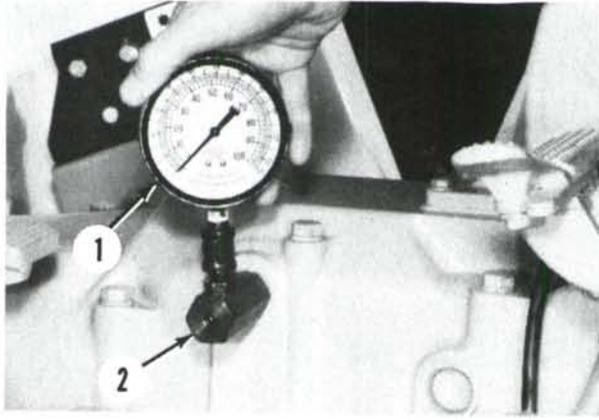

Fig. 189—Install pressure gage (1) using special adapter CAS-1242 (2) in control valve test port to check control valve relief pressure.
**255. SETTING CONTROL VALVE PRESSURE.** Reinstall control valve and tighten mounting bolts to 34 N·m (25 ft.-lbs.) torque. Install front and rear sequence valves. Move control valve spool fully forward and remove plug (4—Fig. 188) from control valve test port. Install transmission cover and remote valve assembly. Do not install power shift selector lever at this time. Remove test port plug from right side of transmission cover. Install special adapter CAS-1242 (2—Fig. 189) and a 0-1000 kPa (0-150 psi) pressure gage (1) through opening in cover and into control valve test port.